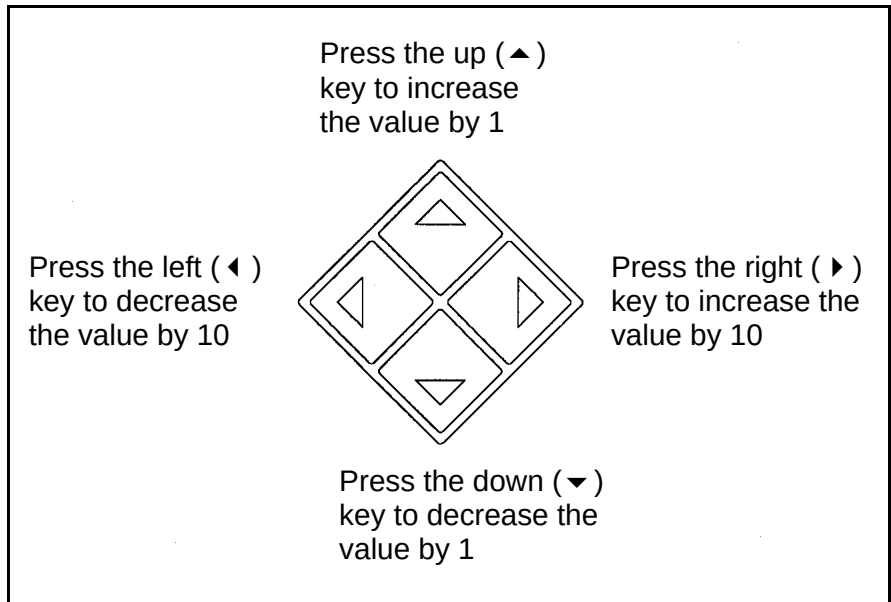

Figure 3-16. Changing Values Using the Arrow Keys
- when a particular software option contains a value (shown inside a black box), use the arrow keys to increase or decrease the value as desired (refer to Figure 3-16).